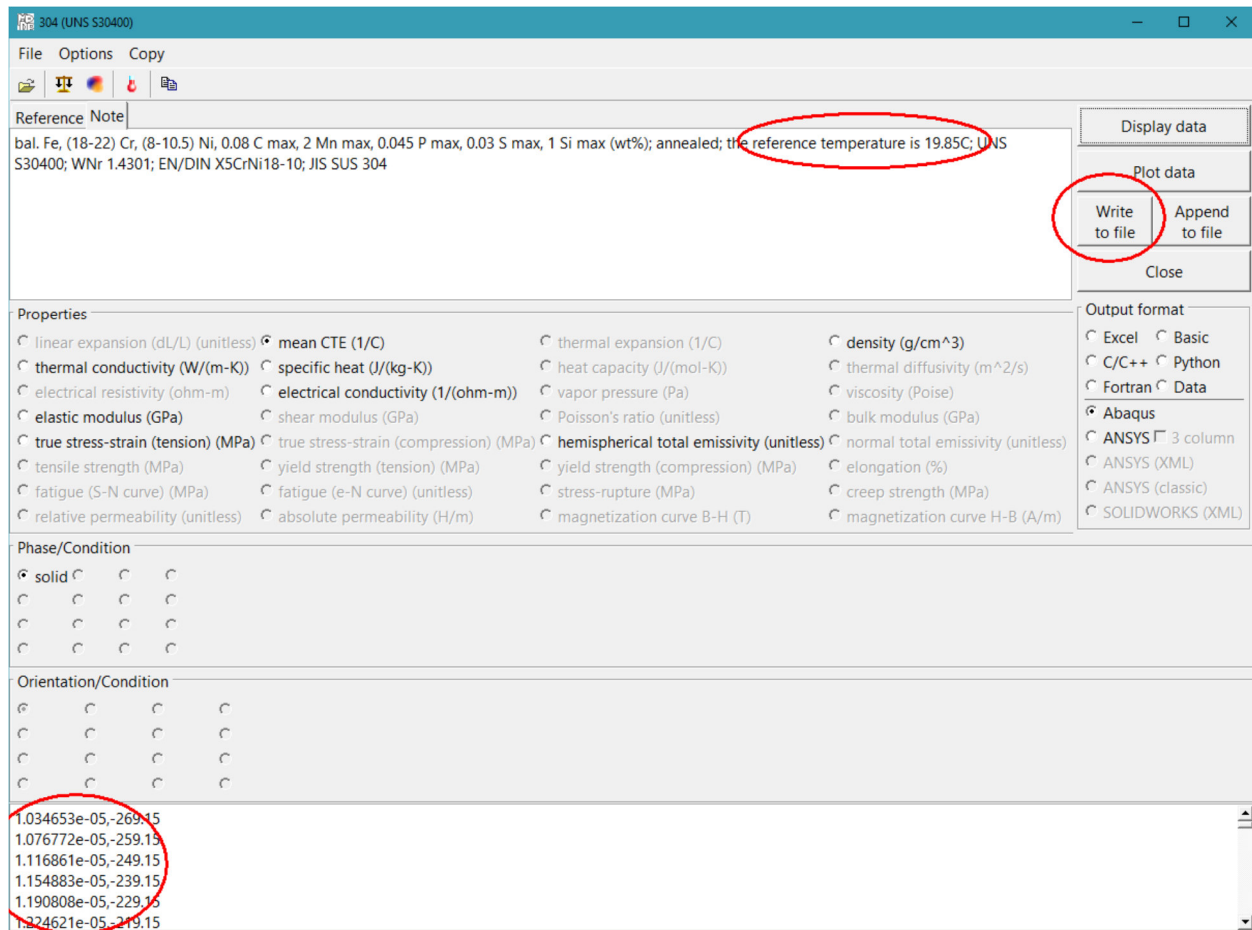
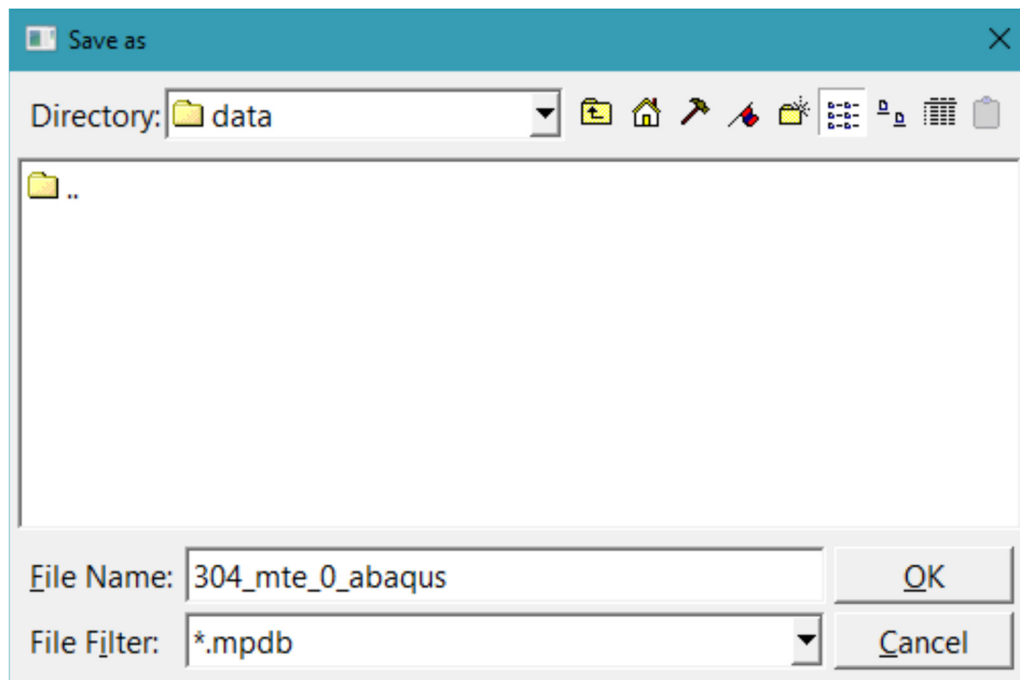

Figure 3.
Figure 4.
- e) The data will be written to the output window as shown in Figure 3.
- f) Click the “Write to file” button (Figure 3) to save the data to a text file, Figure 4.